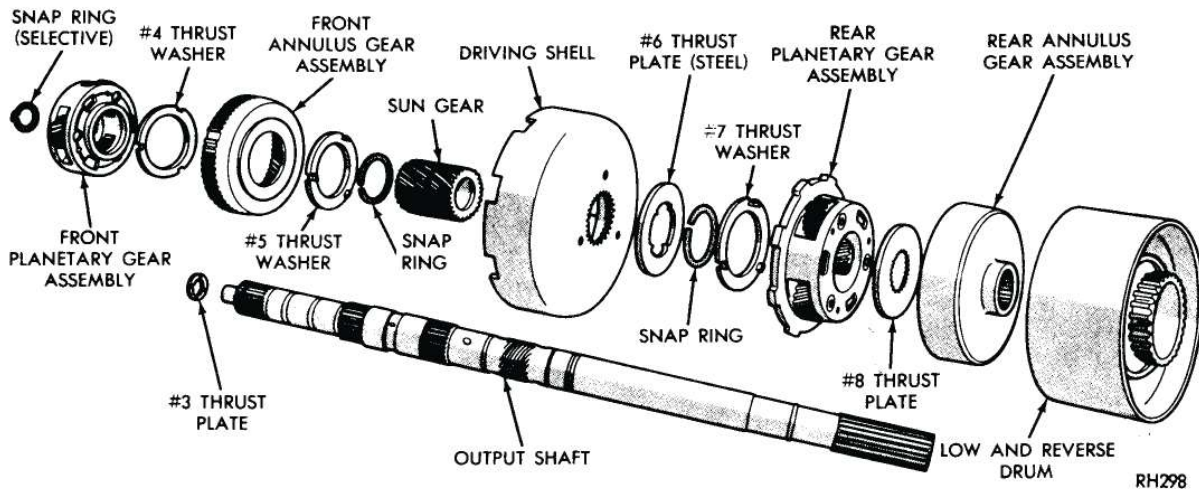

Fig. 34—Planetary Gear Train and Output Shaft (A-727)
PLANETARY GEAR TRAIN—A-727 (Fig. 34)
- (1) Remove #3 thrust plate from forward end of output shaft (Fig. 34).
- (2) Remove selective snap ring from forward end of output shaft, then slide front planetary assembly off the shaft.
- (3) Slide front annulus gear off planetary gear assembly. Remove #4 thrust washer from rear side of planetary gear assembly.
- (4) Slide sun gear, driving shell, and rear planetary assembly off output shaft.
- (5) Lift sun gear and driving shell off rear planetary gear assembly. Remove #5 thrust washer from inside the driving shell. Remove snap ring and #6 thrust plate from sun gear (rear side of driving shell) and slide sun gear out of the shell. Remove front snap ring from sun gear if necessary. Note that front end of sun gear is longer than rear.
- (6) Remove #7 thrust washer from forward side of rear planetary gear assembly, remove planetary gear set and #8 thrust plate from rear annulus gear.
Refer to Figure 34 for parts identification.